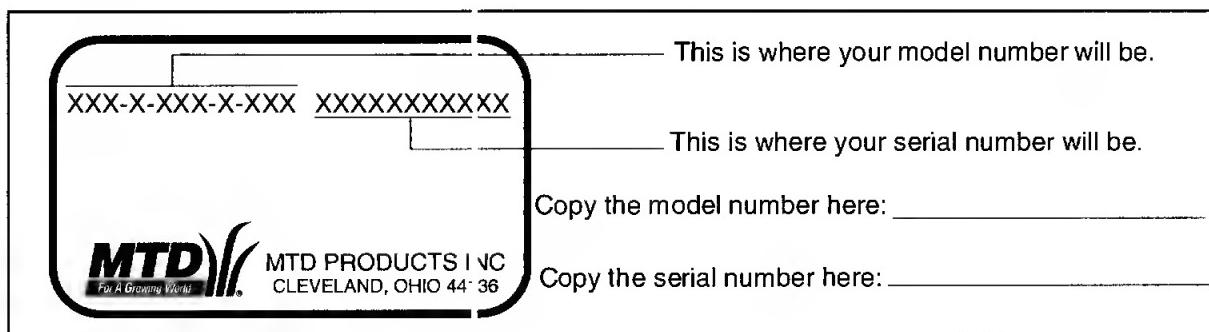

Figure 2
- The model plate will look like figure 2.